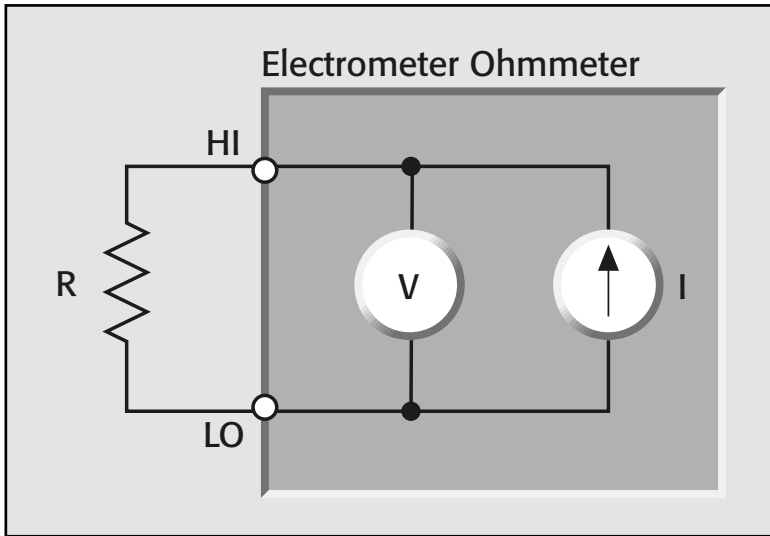

Figure 16: Using the SMU in the Four-Wire Mode to Measure High Resistance
When using the electrometer ohmmeter, measurement accuracy can be affected by a variety of factors. **Figure 16** shows the electrometer ohmmeter measuring a resistance (R). The ohmmeter uses an internal current source and electrometer voltmeter to make the measurement. It automatically calculates and displays the measured resistance. Notice that this is a two-wire resistance measurement compared to using the electrometer voltmeter and external current source, which can make a four-wire measurement. This is because the current source is internally connected to the voltmeter and cannot be used separately.